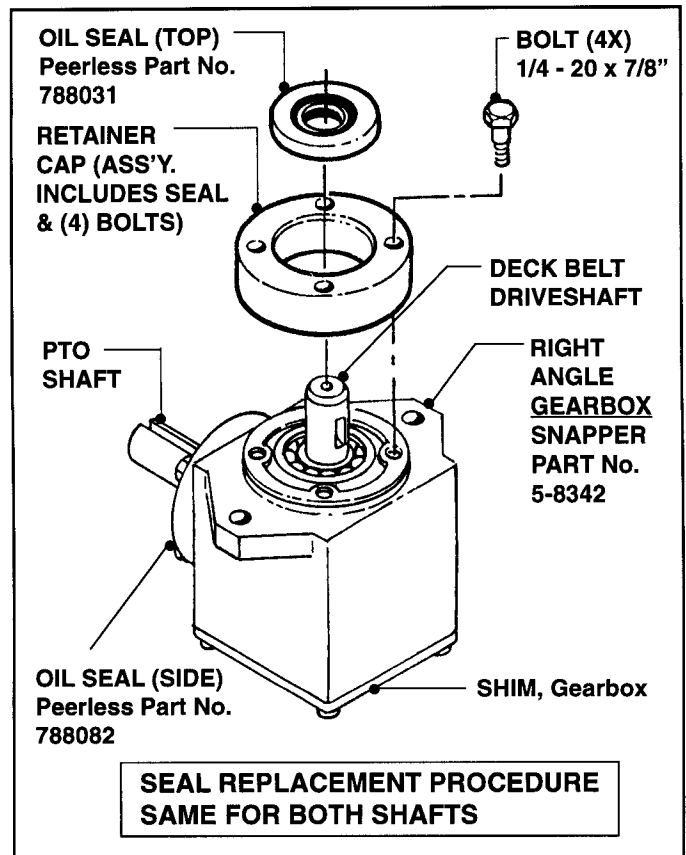

FIGURE 8.6
4. Remove damaged Seal(s) and replace as illustrated in Figure 8.6.